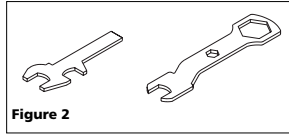

Figure 2
2. Use wrenches provided to loosen jam nut on jaw housing (See Figure 2).